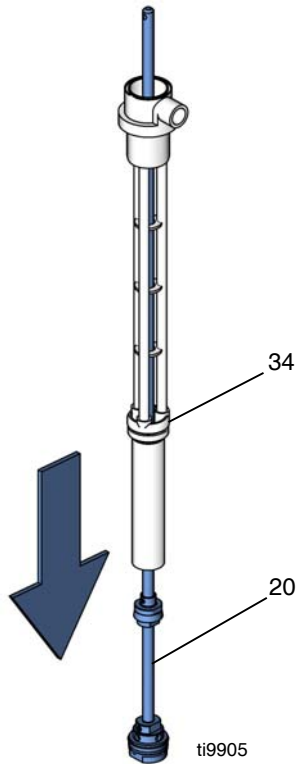

FIG. 19
8. Pull transfer shaft (20) out the bottom of pump body (34). See FIG. 19.